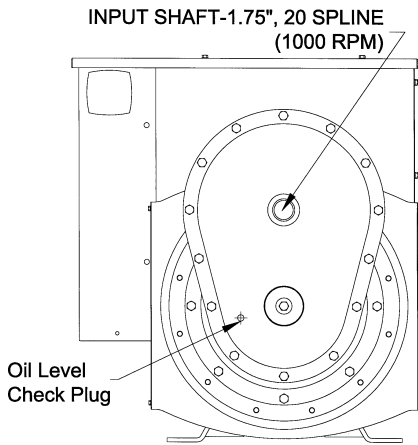

Figure 6
2. Check gear case oil level. (See Figure 6.) Case should be filled with oil to plug marked "OIL LEVEL." Fill or remove oil as required.
Check the generator gear case oil level before each use of the generator. Maintain the oil level at oil level plug height. (Figure 6 illustrates oil level plug location.) The generator is shipped with lubricant in the gear case. Specifications for gear case lubricant are:
Change the oil at least once every six months. Change it more often if you use the generator in bad weather. Use the following procedure to change generator gear case oil (see Figure 6):